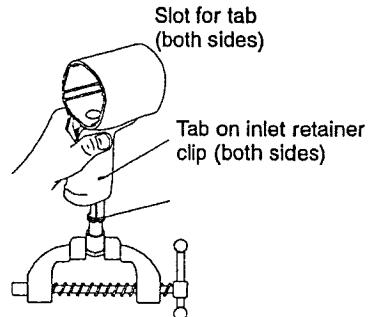

Figure 7
1. Secure the Inlet Bushing in a vise. Press in both tabs of the Inlet Retainer Clip (32) and pull upward on the Housing (19). This will allow the Inlet Bushing to come free from the Handle of the Housing. See Figure 7.
2. Pull the Trigger (33) from the front of the Housing and remove the Trigger O-ring (34).